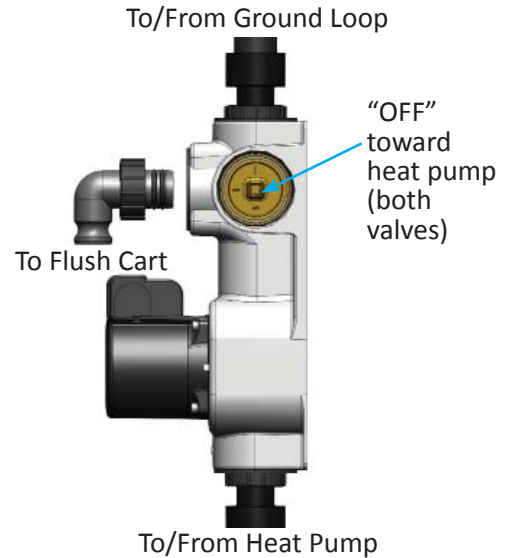
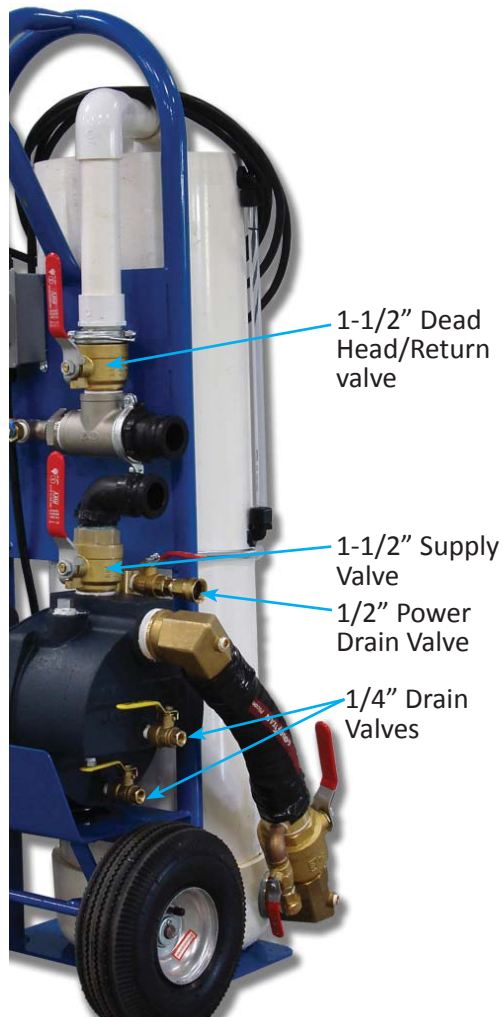

Figure 10: Flow-Link™ Double O-ring flow center valve positions for heat pump isolation
Figure 12: Flush Cart Valves in flushing steps
5. Rotate 3-way valves on flow center so that the heat pump circuit is isolated and fluid is directed toward the ground loop only. Figure 10 shows examples of how the valves may be oriented. This will vary depending on the type of flow center installed.
8. Close 2" tank isolation valve (Figure 8) and open the 1-1/2" dead-head valve (Figure 12).
10. Open the 2" tank isolation valve (Figure 8) and energize the pump. Slowly open the 1-1/2" supply valve (Figure 12) approximately 1/4 to 1/2 open. Air and debris will be pushed through the return piping. Debris will be captured in the bag filter and air will be released to the atmosphere.
11. Regulate the fluid level in the tank with the 1/2" fill valve (Figure 10) and the 1-1/2" supply valve (Figure 12) while the pump is running. Do not allow the fluid in the tank to drop too low or air will be pushed back into the loop extending flushing time.
NOTE: When the pump is running any air remaining in the loop will be pressurized. Therefore, if the pump is powered off during the flushing process the compressed air will expand pushing the loop fluid back in the tank. This could cause the tank to overflow. If the pump must be shut off during the process, close the 1-1/2" supply valve (Figure 12) and the 1-1/2" dead-head/return valve (Figure 12) to prevent fluid from returning to the tank.
12. When the fluid level remains relatively stable ensure that the 1-1/2" supply valve (Figure 12) is fully open.
14. While the pump is running, “dead-head” the pump by turning off the dead-head/return valve (Figure 12). Then, quickly reopen the valve allowing the fluid to return to the tank. This process drives the loop pressure up thereby compressing any air remaining in the loop. Quickly opening the valve creates a sudden high velocity surge that helps dislodge air into the fluid stream where it can be returned to the tank.
17. Close the 1-1/2” dead-head valve (Figure 12) while watching the fluid level in the sight tube. The dead-head process drives the static loop pressure to approximately 50 psi. Since fluid is incompressible but air can be compressed, this procedure shows whether air remains in the loop. In general, the fluid should not drop more than about 3/8” to 3/4” on a typical residential system. The slight drop in fluid is due to the expansion of the ground loop piping, and the actual drop will depend on the loop size (i.e. how much total pipe is in the loop) and fluid temperature.
18. Open the 1-1/2” dead-head valve (Figure 12) and allow the fluid to continue to circulate.
23. Close the 1-1/2” dead-head valve (Figure 12).
24. Close the 1-1/2” supply valve (Figure 12) to trap pressure in the system. Turn off the pump.
28. Open the 1-1/2" Supply and Return valves (Figure 12) to relieve the pressure in the hoses.
5. Run the flush cart for at least 30 minutes, while monitoring the filter. This very fine filter will catch clay, sand and other debris. If the filter overflows during the process, stop the pump and clean the filter as necessary. Continue until the loop fluid is completely filtered. Clean the 100 micron filter with clean water while the one micron filter is being used. Rotate the valves on the flow center to direct the fluid to the heat pump and allow the pump to run for another five minutes. Figure 10 shows examples of how the valves may be oriented. This will vary depending on the type of flow center installed.
3. Rotate the flush valves on the flow center to direct fluid to the ground loop only (Figure 10). Since most of the loop fluid is in the ground loop, most of the antifreeze would likely dump down the drain if antifreeze were introduced toward the heat pump.